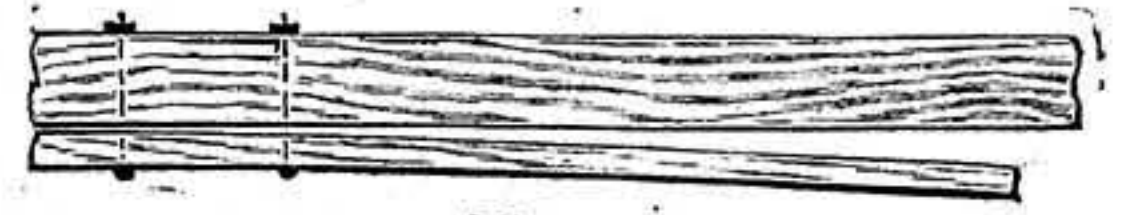

Fig. 1.
**Saw.**—W. W. (*Caverton*) writes, in reply to TOP SAWYER (see p. 478, No. 134):—"The wood spring for saw is about 8 ft. by 4 in. by 1 1/2 in., and should taper a little towards the point, and is fixed to the rafter in the manner shown in Fig. 1. As to support for upper end of saw G (see p. 347, No. 126), I am not able to give any stated length, for that all depends